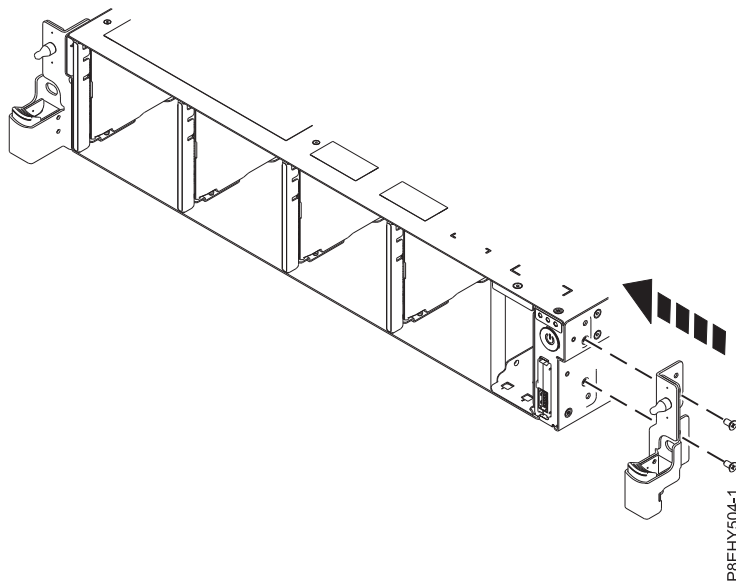

Figure 112. Replacing the rack installation support
7. Replace the rack installation support on the side of the system as shown in Figure 112.